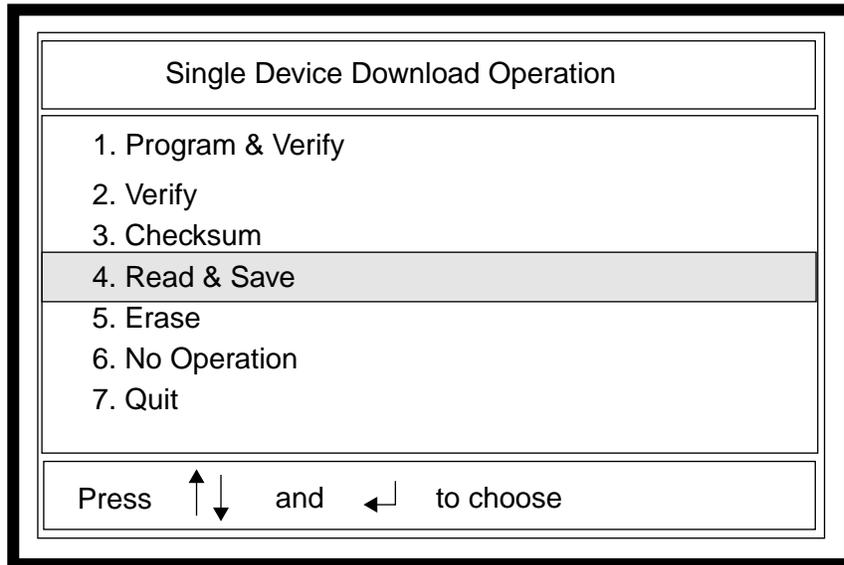

Figure 3-57. Read and Save Operation Screen
1. Type **4** or **R** from the Single Device Download Operation menu (Figure 3-57).